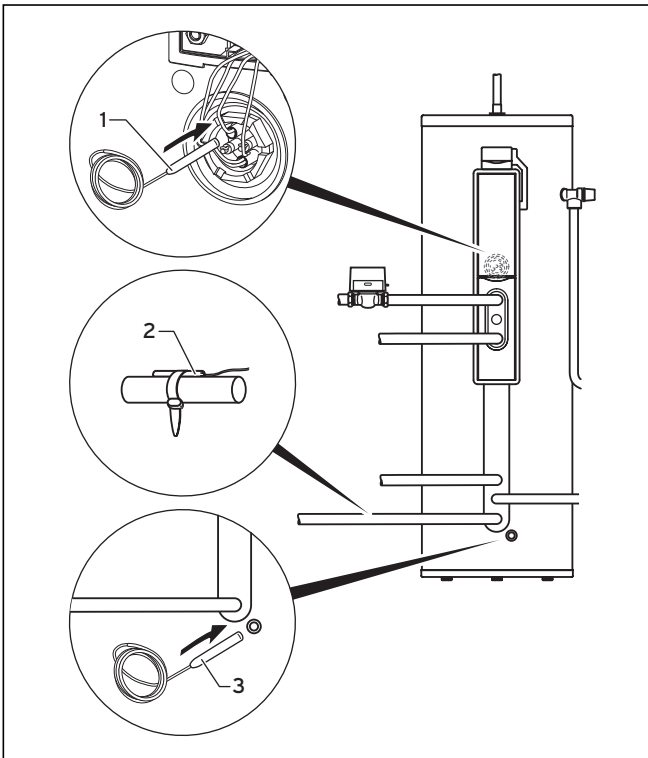

Fig. 5.29 Installation of the VR 10 temperature sensor
- Installation of two VR 10 temperature sensors in the solar cylinder (see Fig. 5.29)
- Attachment of the solar gain sensor to the solar circuit return (see Fig. 5.29)
- Push one of the VR 10 temperature sensors (1) supplied with the solar control in an immersion sleeve where there is still room, as illustrated in Fig. 5.29.
- Push a VR 10 temperature sensor (3) in the immersion sleeve for the bottom cylinder area.
- Attach the temperature sensor for the gain (2) to the return pipe of the solar circuit nearby the solar cylinder.